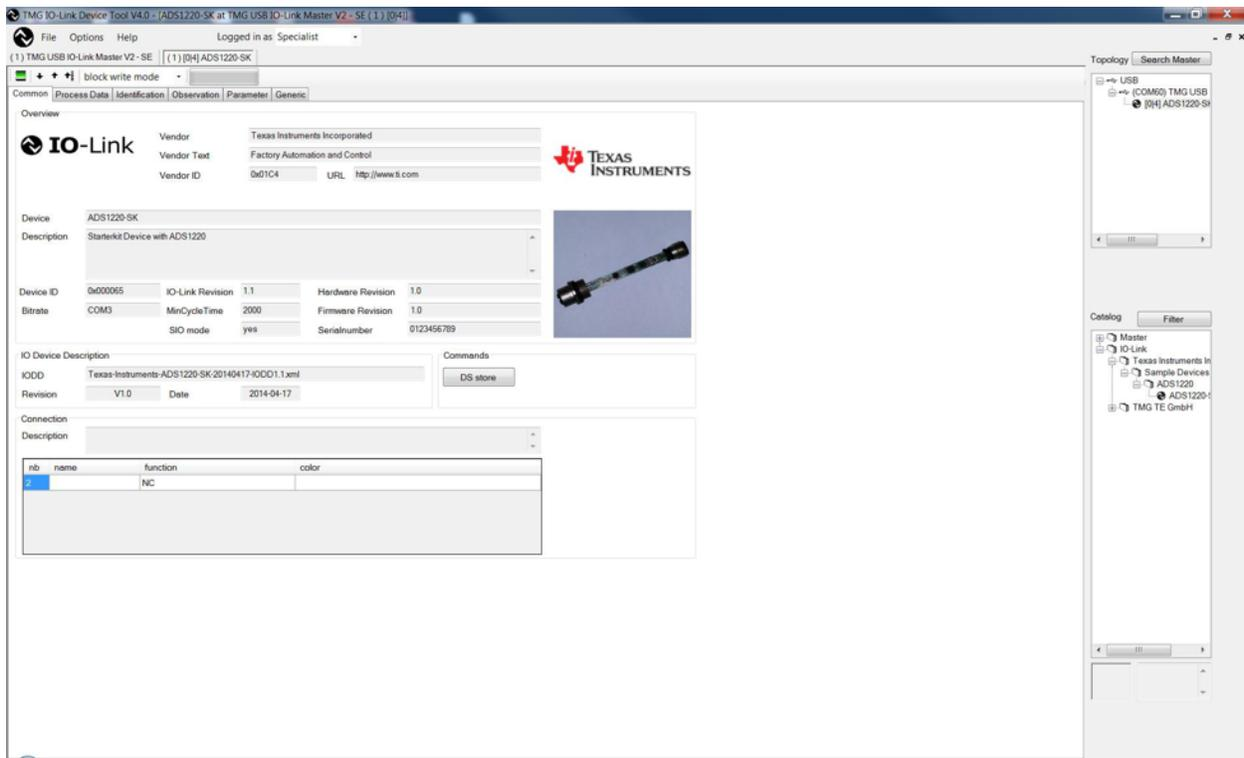

Figure 26. IO-Link Master GUI
6. After establishing the connection, the screen shown in Figure 26 is visible.